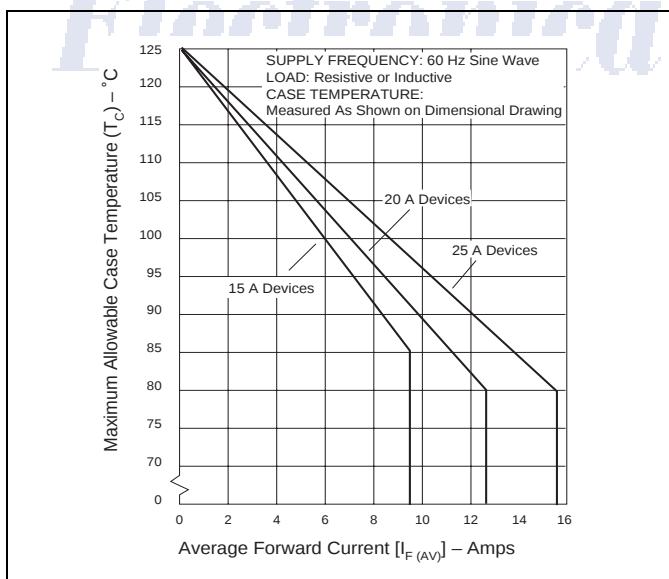

Figure E7.3 Maximum Allowable Case Temperature versus Average Forward Current
- See Figure E7.3 for current rating at specified case temperature.